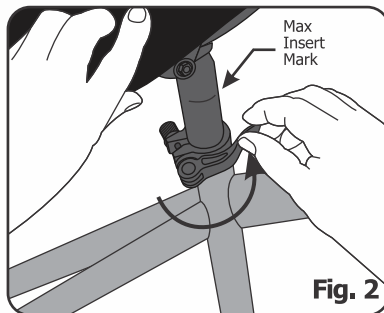

Fig. 2
**Attention!** Always insert seat post into bicycle frame above the **minimum mark** and below the **maximum mark**, see **Fig. 2**. Incorrect seat post insertion outside of maximum - minimum marks will cause bicycle damage or injury.
2. Hold the saddle aligned in the forward position at the desired seat height. Close quick release counter clockwise see (Fig. 2).